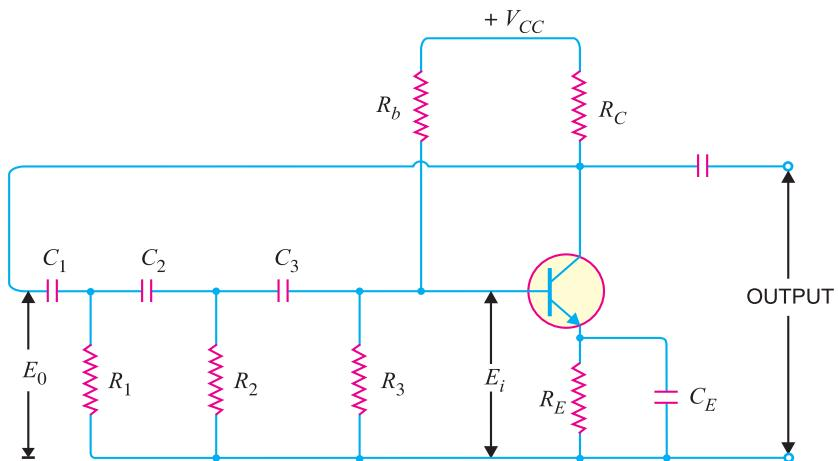

Fig. 14.17
Fig. 14.17 shows the circuit of a phase shift oscillator. It consists of a conventional single transistor amplifier and a *RC* phase shift network. The phase shift network consists of three sections  $R_1C_1$ ,  $R_2C_2$  and  $R_3C_3$ . At some particular frequency  $f_0$ , the phase shift in each *RC* section is  $60^\circ$  so that the total phase-shift produced by the *RC* network is  $180^\circ$ . The frequency of oscillations is given by :
**Example 14.7.** In the phase shift oscillator shown in Fig. 14.17,  $R_1 = R_2 = R_3 = 1M\Omega$  and  $C_1 = C_2 = C_3 = 68 pF$ . At what frequency does the circuit oscillate ?